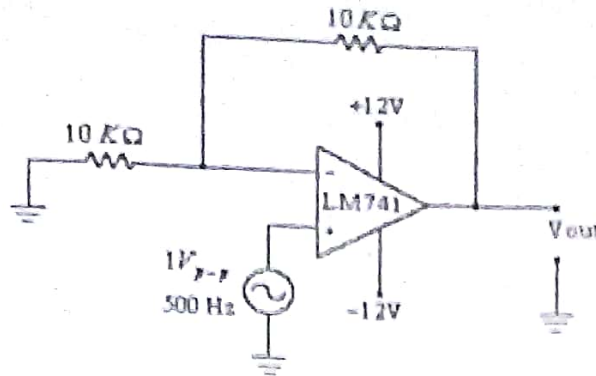

Fig.6: Non-inverting Amplifier
8. Construct the circuit shown in Figure 6. Connect a 500 Hz, 1 V_{rms} sine wave to the input and use the oscilloscope to observe the input and output signals.
9. Repeat steps (2) and (3) for Figure 6.